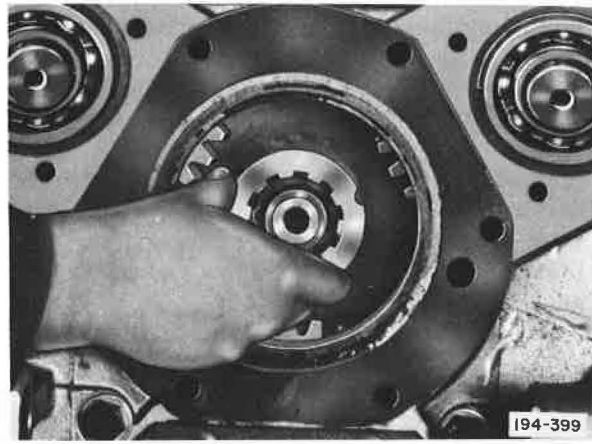

Figure 5-201. Installing Fourth Speed Gear Thrust Washer
16. Install fourth speed gear thrust washer on mainshaft. Install fourth speed gear splined thrust washer on mainshaft. See Figure 5-201.